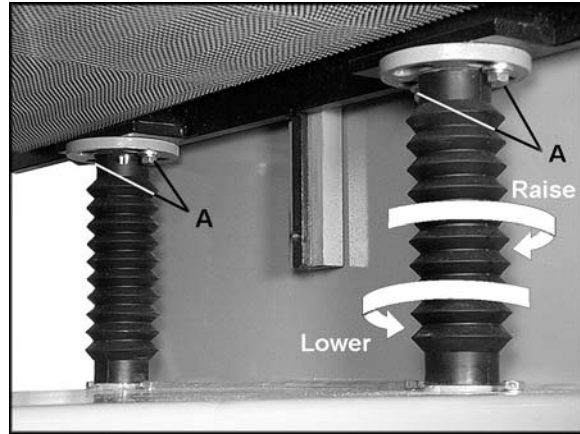

Figure 18
3. At the area of the table that needs adjustment, loosen the two screws (A, Figure 18) on the bracket of the elevation screw, and rotate the bracket as needed. (The elevation screw is protected by the dust guard bellow.) Turn the elevating screw clockwise to lower the table in that area, counterclockwise to raise the table (see Figure 18).
4. Tighten screws (A, Figure 18).